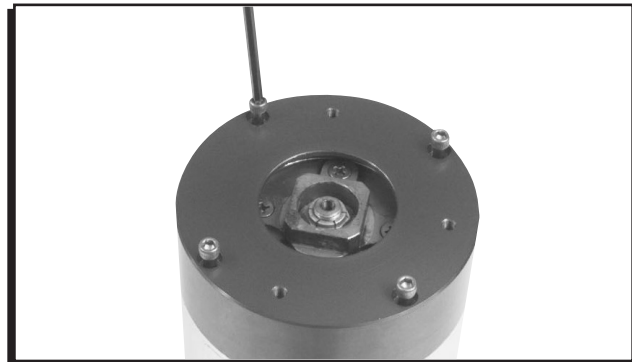

Figure 4 Installing the New Billet Housing.
3. Install the new billet base with the existing four screws with a small amount of Blue Loctite on the threads (Figure 4). Tighten the screws in a criss-cross pattern.